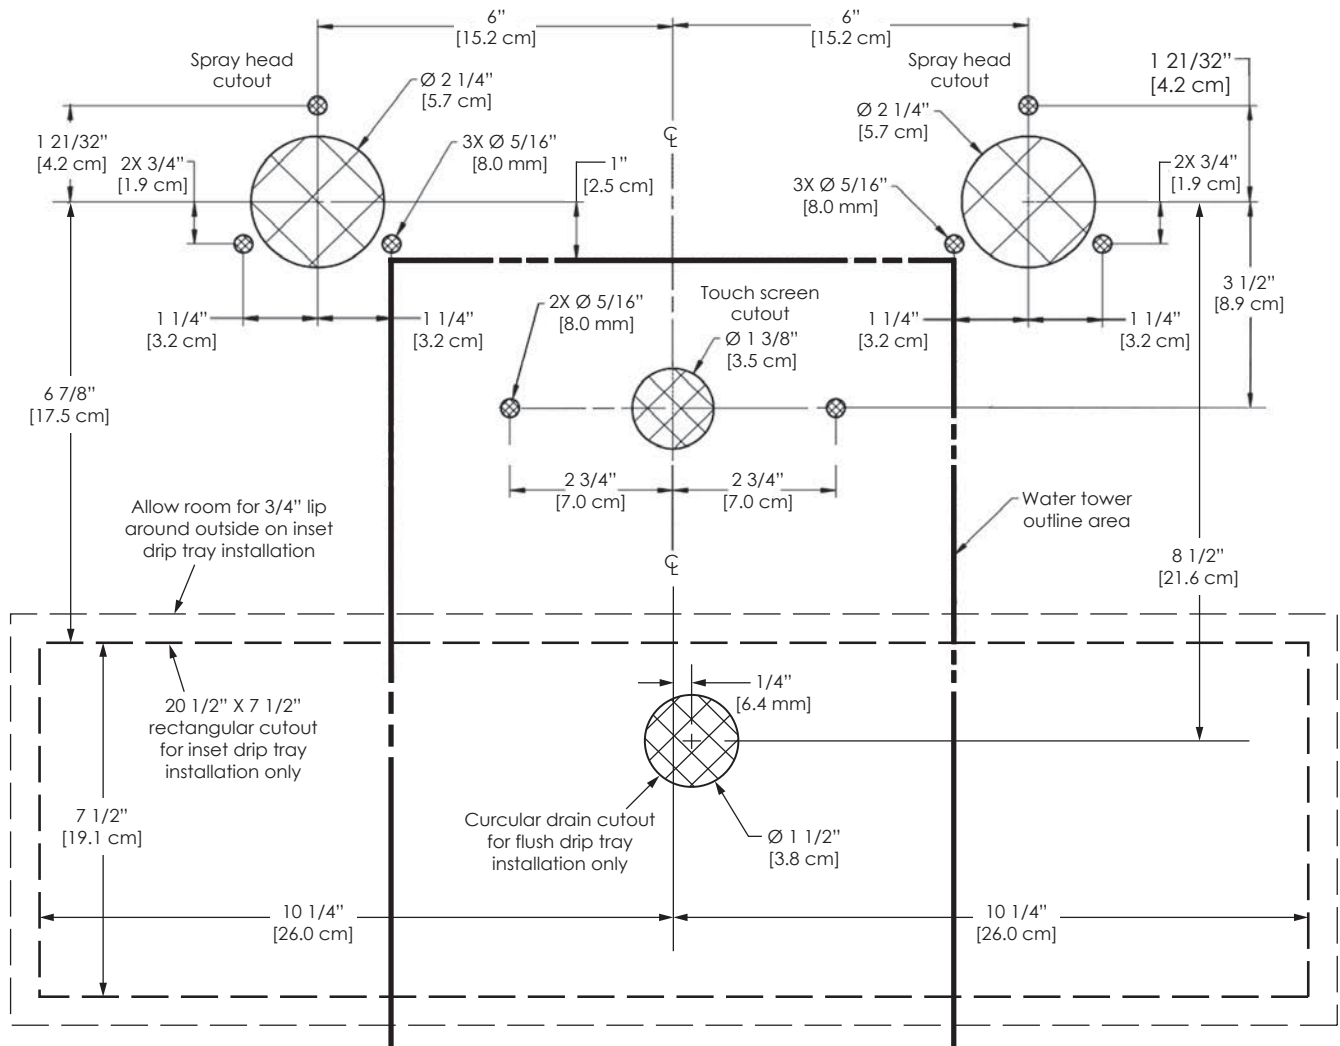

Figure 3 - Hole Pattern Template for Cutting and Drilling Countertop (Drawing Not to Scale)
- 7 Holes must be cut into the counter top prior to installing the brewer. The hole pattern is critical for proper operation. See **Figure 3** on the following page. The two brew heads must fit within a 2 foot by 3 foot area.
Packed with the unit is a full-size template (Part # WC-390245). Use the template for cutting the required holes needed for installing the brew heads, touchscreen and drip tray. The two largest circular holes are for the brew head assemblies, along with three stud holes for the mounting plate for each head. Also, there is a circular hole for the touch screen, along with the two mounting holes. The drip tray can be inset into the counter or mounted flush. Inset installation is recommended. The rectangular hole shown in **Figure 3** is for inset installation. If the drip tray will be mounted flush, a circular hole is drilled in the location shown for the drain instead of a rectangular hole.
- 20 Center the water tower between the two brew heads under the countertop. Refer to the hole pattern drawing (Figure 3) for the proper location. Level it left to right and front to back by turning the bottom of the legs.